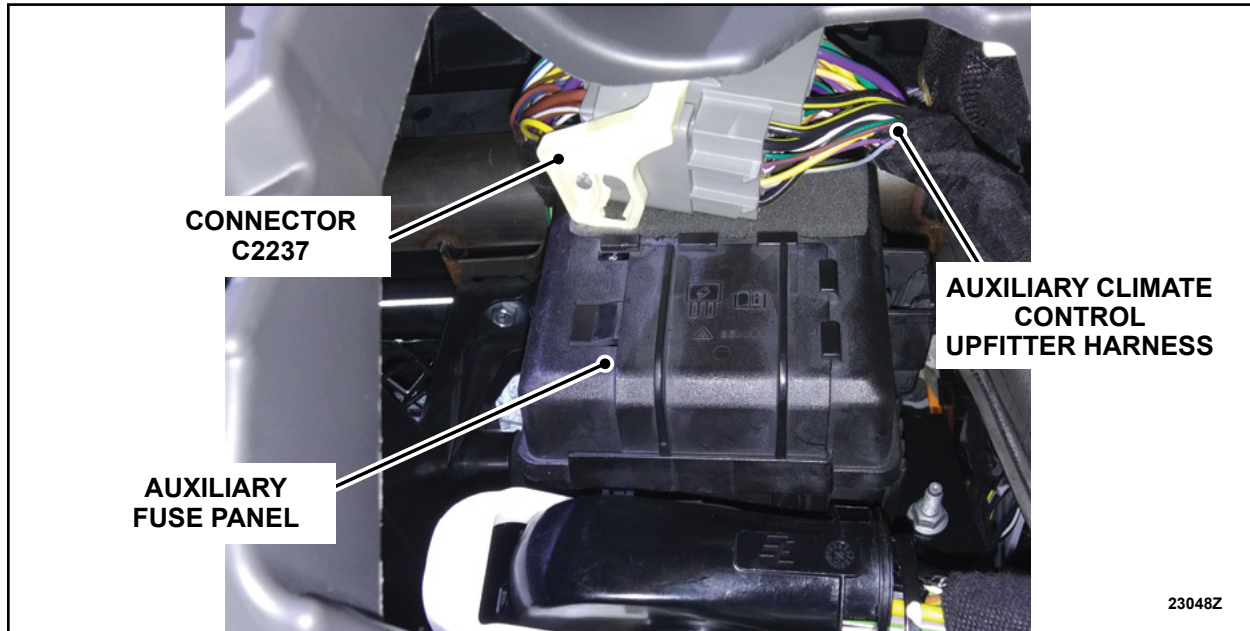

FIGURE 28
32. Route the auxiliary climate control upfitter harness back into position. Connect the harness back to connector C2237 and secure the locking latch. Then re-attach the harness to the slot on the auxiliary fuse panel. See Figure 28.